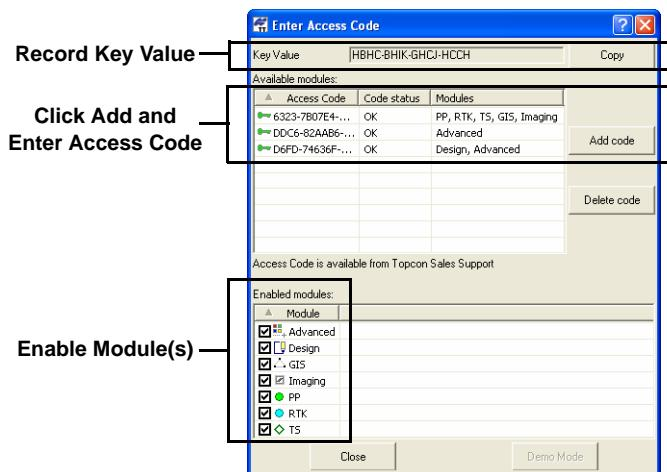

Figure 1-11. Enter Access Code
2. Record the key value of the machine (Figure 1-11 on page 1-9).
4. After receiving the access code, click **Add code** and enter (or paste) the code into the editable field that appears in the *Available modules* table. Press **Enter** or click outside the box to apply. If accepted, available modules will display in the *Enabled modules* field (Figure 1-11 on page 1-9).
5. Click the desired module(s) to enable them for Topcon Tools (Figure 1-11). Click **Close**.